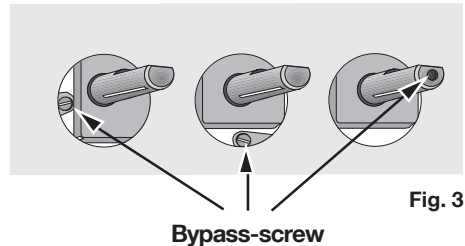

Fig. 3
- With a thin screwdriver, adjust the bypass screw (Fig. 3). If changing **from natural gas to LPG**, completely tighten clockwise the screw, until a small regular flame is obtained.